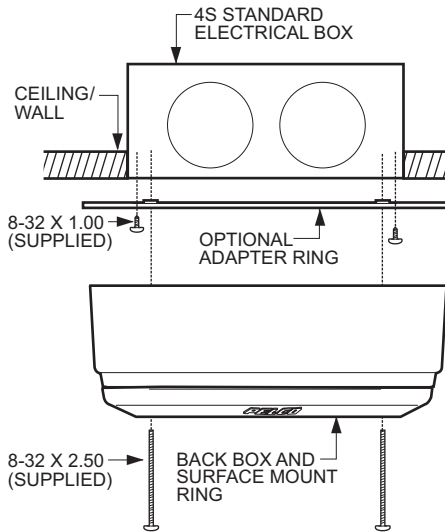

Figure 7. 4S Standard Electrical Box Installation
1. Attach the adapter ring to the 4S box with two 8-32 x 1.00-inch screws (supplied; refer to Figure 7).